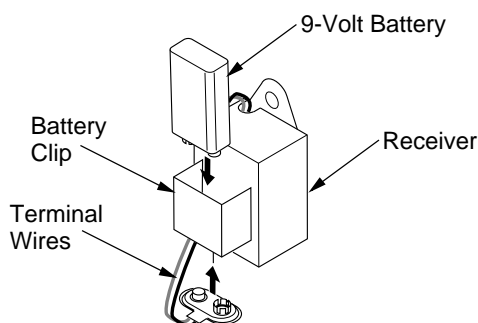

Figure 16 - Installing Battery in Receiver
5. Locate the battery clip mounted on the back of the receiver (see Figure 16).
7. Attach the terminal wires to the battery (see Figure 16).